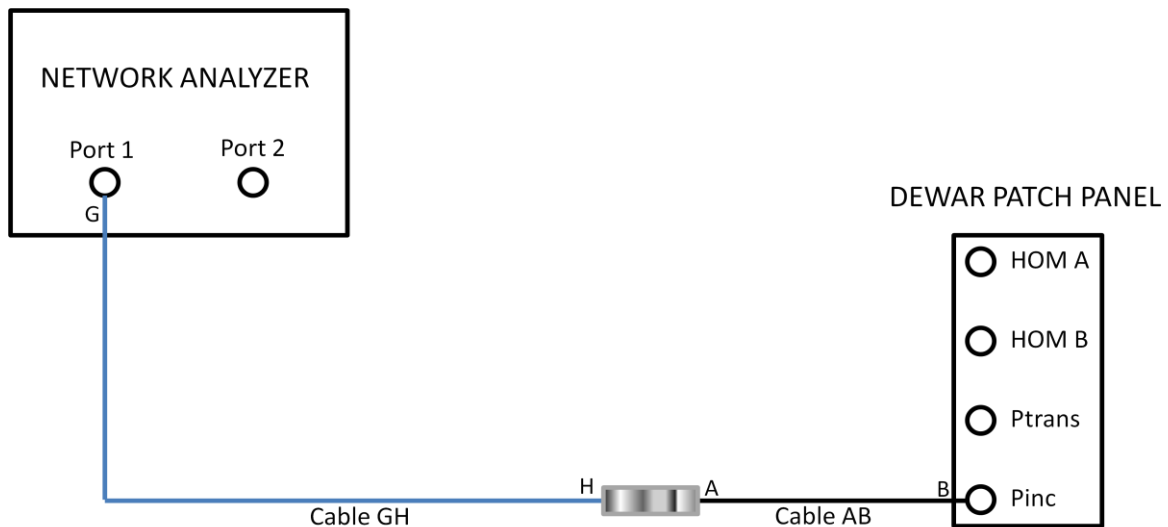

Figure 2. Network Analyzer connection to P_{INC}
- At Dewar, connect cable GH from network analyzer to cable AB (P_{INC}) as shown in Figure 2.